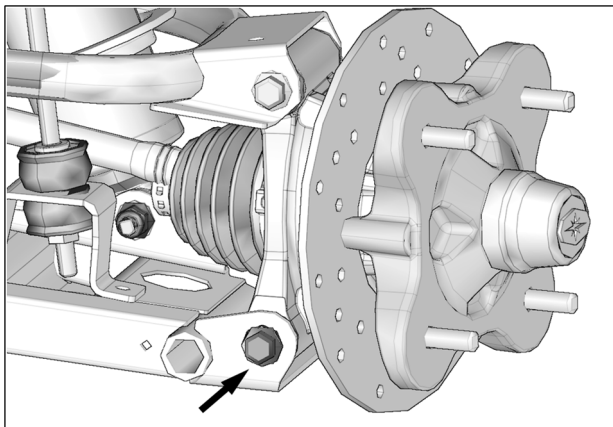

Fig. 6
5. Remove bolt securing the lower suspension arm to the wheel hub. A new M10-1.5x200 mm bolt provided in the installation kit will be used to secure together the anti-rotation anchor bracket, the lower suspension arm and the wheel hub. See Fig. 6